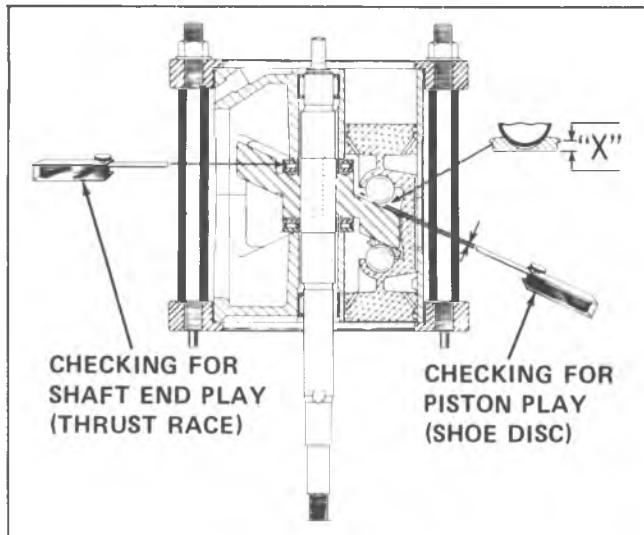

Fig. 44--Checking Piston and Shaft End Play
An alternate method of selecting a proper race is to use Gage Set J-9661-01, selecting a suitable feeler gage leaf until the result is a 4 to 8 ounce pull on the scale between the rear thrust bearing and upper (or outer rear) thrust race (Fig. 44). If the pull is just less than 4 ounces, add .0005" to the thickness of the feeler stock used to measure the clearance. If the pull on the scale reads just over 8 ounces, then subtract .0005" from the thickness of the feeler stock. **Select a race TWO (2) FULL SIZES LARGER than feeler gage thickness** (If feeler gage is .007", select a No. 9 or 090 race).
21. **Select a thrust race with a "number" corresponding to TWO (2) FULL SIZES LARGER than Dial Indicator or feeler gage measurement of the amount of end play shown. (If measurement is .007", select a No. 9 or 090 race). Place thrust race in right-hand slot at bottom center of Parts Tray J-9402.**